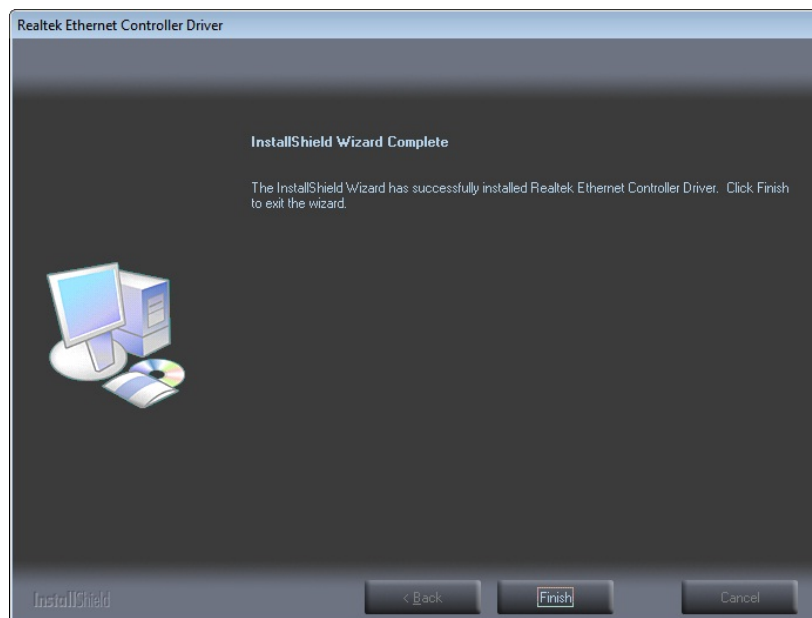

Figure 6-15: LAN Driver Installation Complete
Step 10: When the driver installation is complete, the screen in **Figure 6-15** appears.